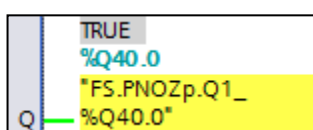

Figure 102: TIA – F-program » Actuator switched on (FS.PNOZp.Q1_%Q40.0)
- The application runs error-free; the actuator is switched on (Figure 102 [book 62]).